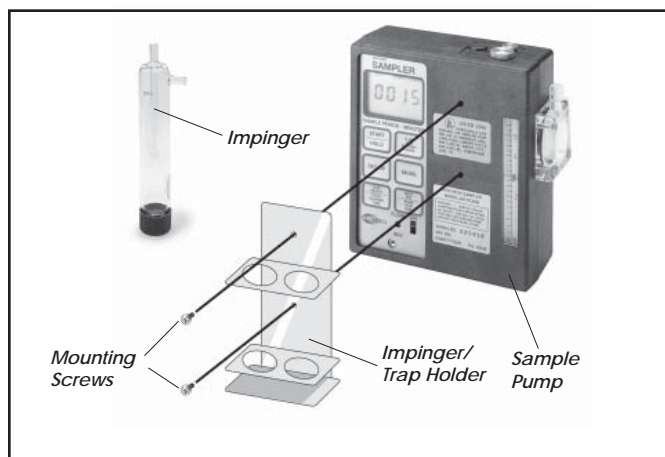
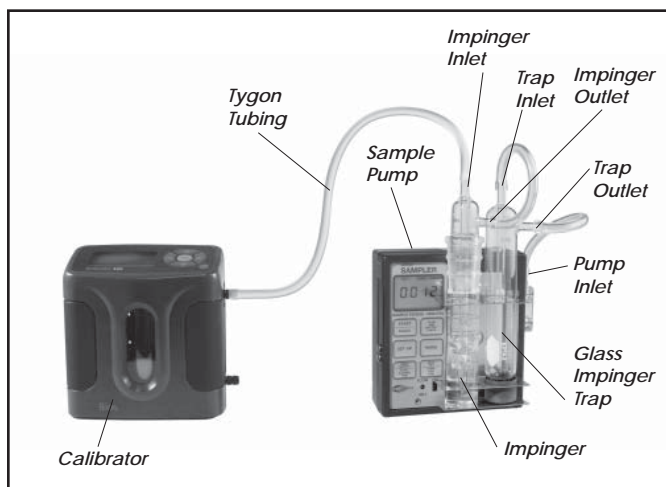

Figure 1. Attaching a glass impinger/trap holder to a sample pump
Figure 2. Glass impinger and glass trap in calibration train
2. Setting Up the Calibration Train — See Figures 1 & 2
Ensure sample pump has run for 5 minutes before calibrating the pump. Attach the stainless steel holder to the pump (Figure 1) and place the impinger and trap in the holder. With flexible tubing, connect the outlet of the impinger to the inlet (top) of the trap and the outlet (side arm) of the trap to the inlet of the pump (Figure 2).
3. Calibrating the Flow Rate — See Figure 2